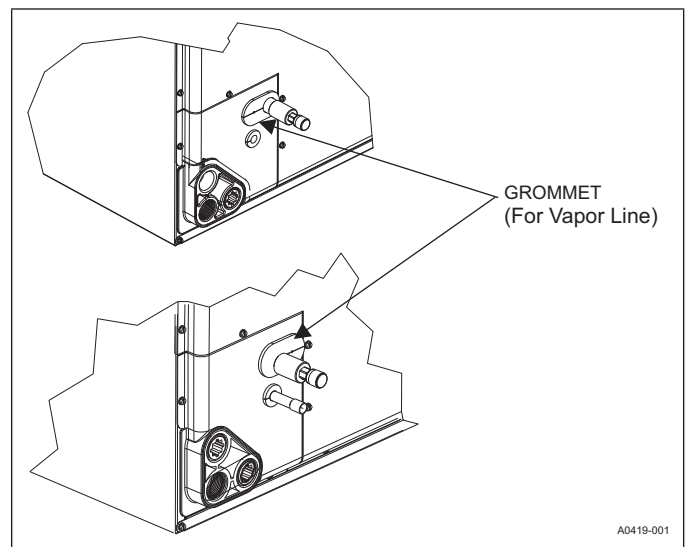

FIGURE 14: Vapor Line Grommet
2. Remove grommets where tubes exit the cabinet to prevent the grommets from burning during brazing. In some units, the vapor line grommet may be shipped in the loose parts bag. Refer to Figure 14.
14. Re-attach the grommets to the lines carefully to prevent air leakage. In some units, the vapor line grommet may be shipped in the loose parts bag. Refer to Figure 14.